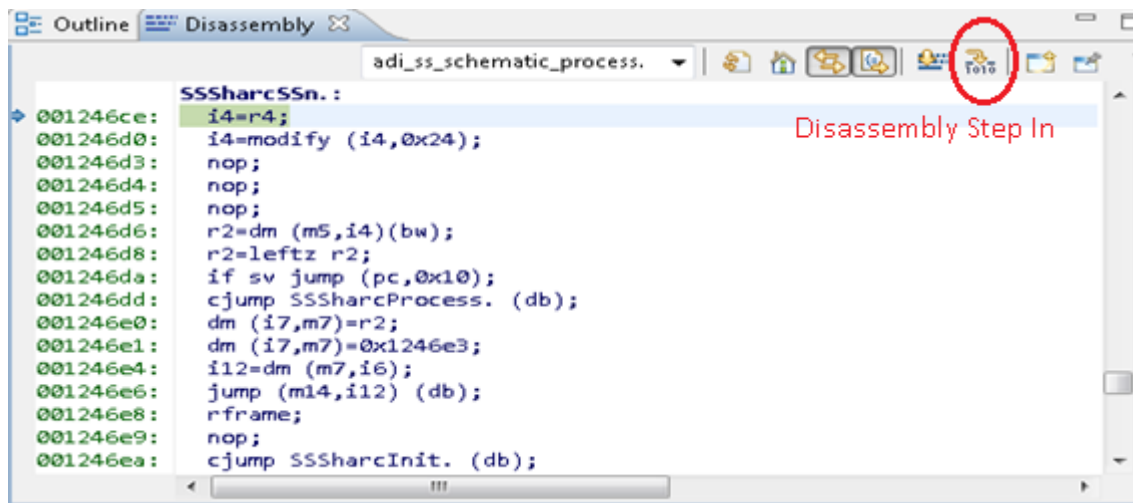

Figure 37: Disassembly Step In to “SSSharcSSn.”
26. Step-in 2 times using disassembly step in (shown in Figure 37) to enter “SSSharcSSn.” disassembly function.